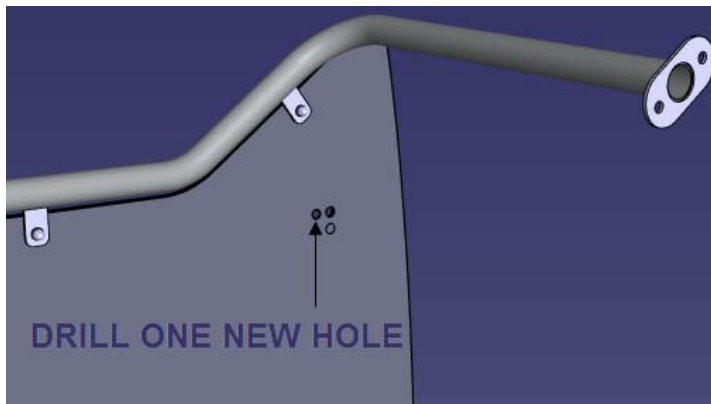

FIGURE 2
- 2) Where was located the hook closer to the side window, drill a new hole horizontally located at the left of the existing one (figures 2 & 3).